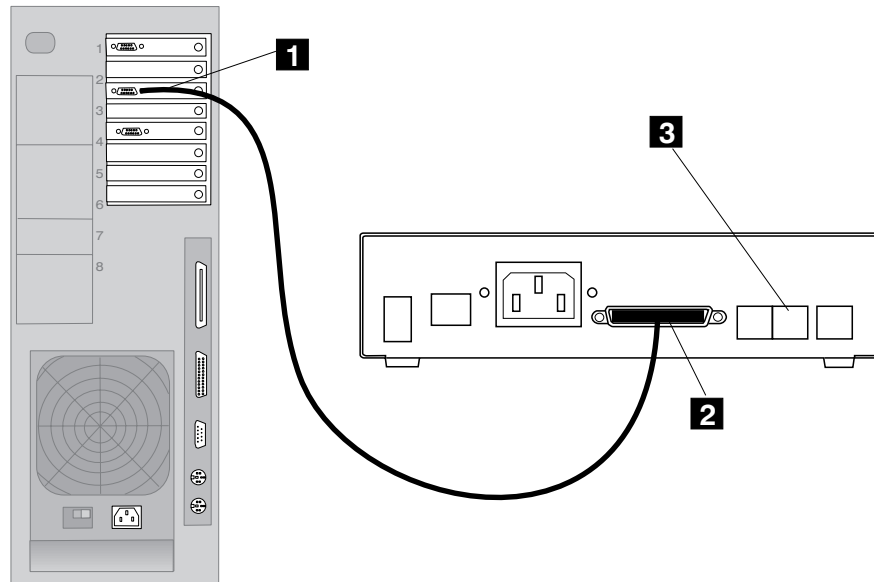

Figure 1-73. Connecting the Service Processor (9585) from the MPA Card to the 7858
- **9585**, refer to Figure 1-73 on page 1-65